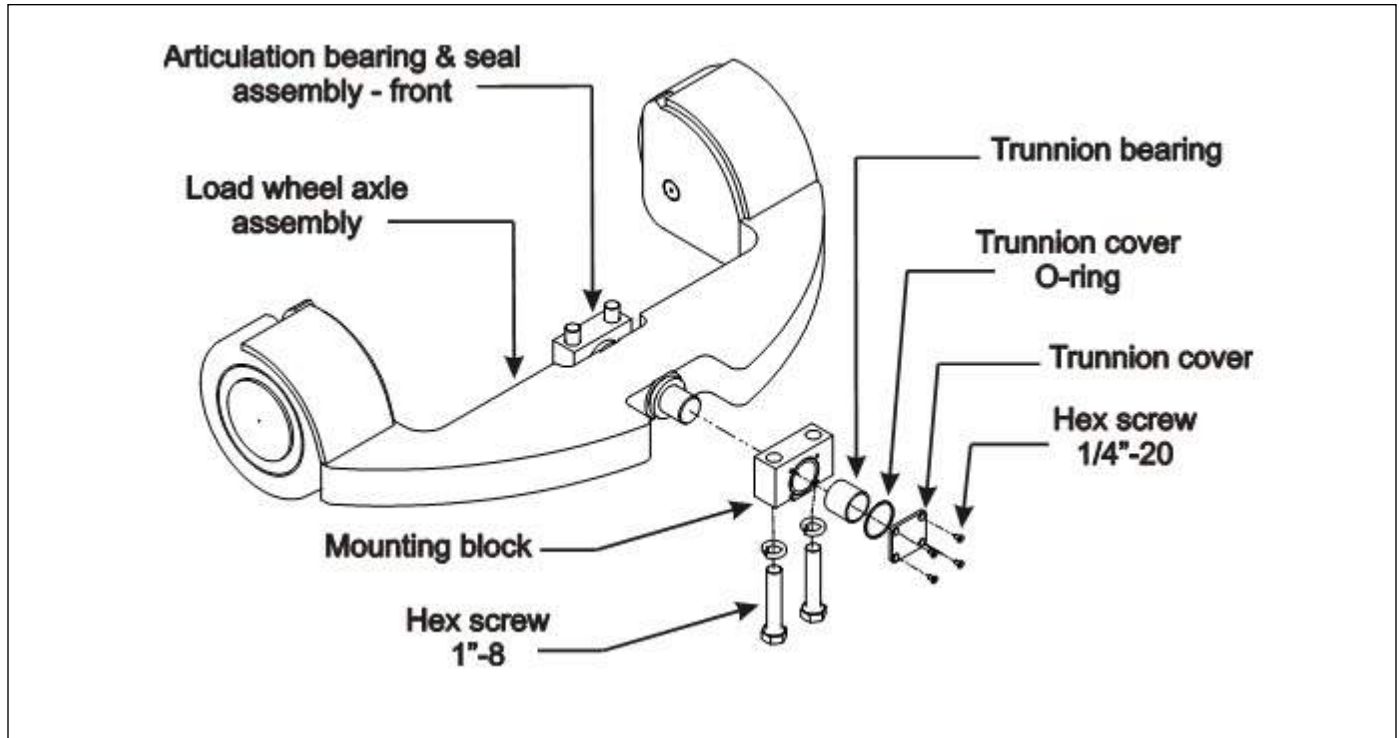

Figure 3-8: Front Axle
11. Remove the 1-8 x 5 hex head cap screws. **See Figure 3-8.** Lift the mast up enough to remove the front axle assembly out from underneath the forklift.
6. Remove the from the front axle. **See Figure 3-8.**